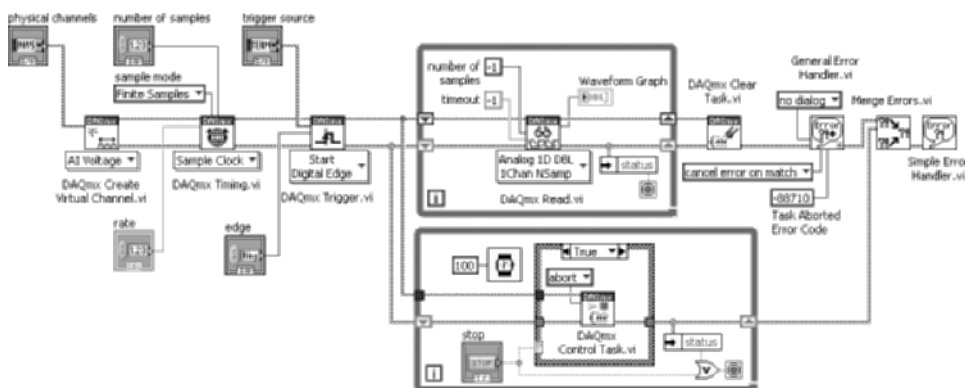

Figure 11.58
2. Build the block diagram shown in Figure 11.58. All DAQmx VIs used in this activity are found on the **Measurement I/O>>DAQmx Data Acquisition** palette, with the exception of **DAQmx Control Task**, which is found on the **Measurement I/O>>DAQmx Data Acquisition>>DAQmx Advanced Task Options** palette.